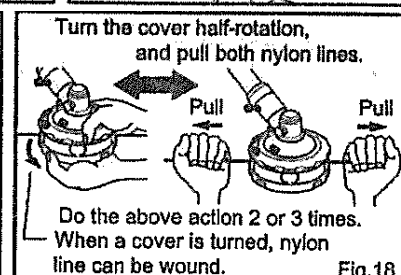

Fig. 18
2. Cut the nylon line to 1.5 to 3 meters. Insert the line into the eyelet under ▼ mark (Fig. 18).
4. Turn the cover a half-rotation and pull both lines to lock them in place. Repeat 2-3 times (Fig. 18).